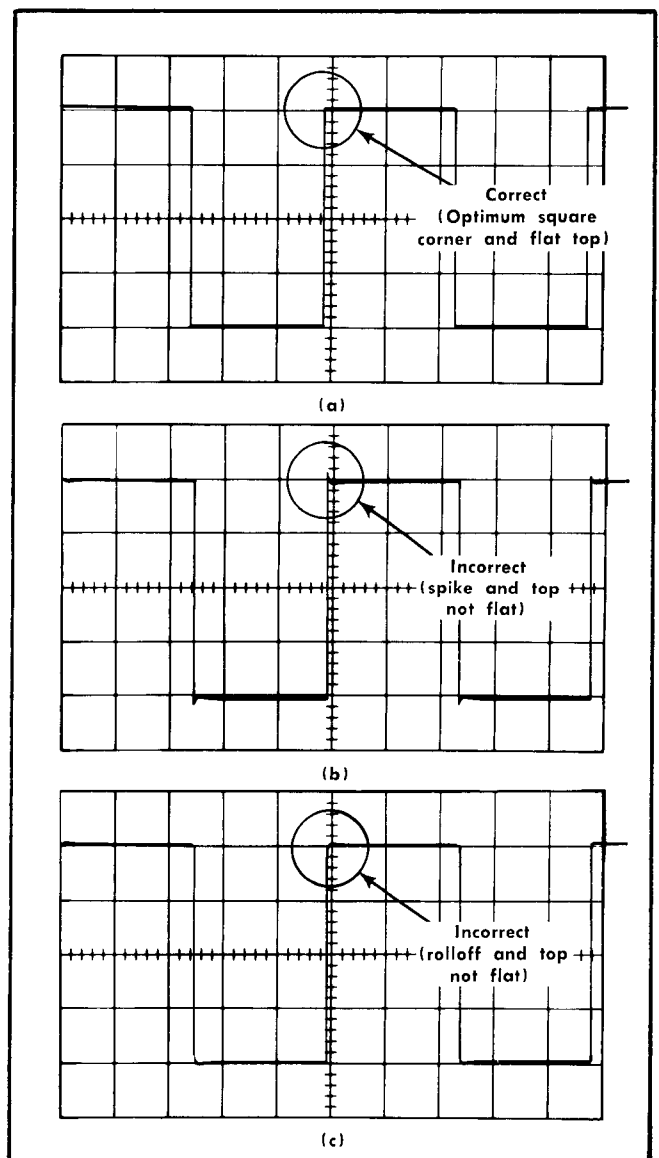

Fig. 5-6. (a) Typical crt display showing correct VOLTS/DIV switch compensation; (b) and (c) incorrect compensation.
- e. Check—Top of square wave for minimum rolloff, overshoot or tilt (see Fig. 5-6). Repeat check at each CH 1 VOLTS/DIV switch position between 20 mV and 2 volts. Adjust the square-wave generator output or remove attenuation as needed to maintain 4-division display.
- i. Check—Top of square wave for minimum rolloff, overshoot or tilt (see Fig. 5-6). Repeat check at each CH 2 VOLTS/DIV switch position between 20 mV and 2 volts. Adjust the square-wave generator output or remove attenuation as needed to maintain a 4-division display.